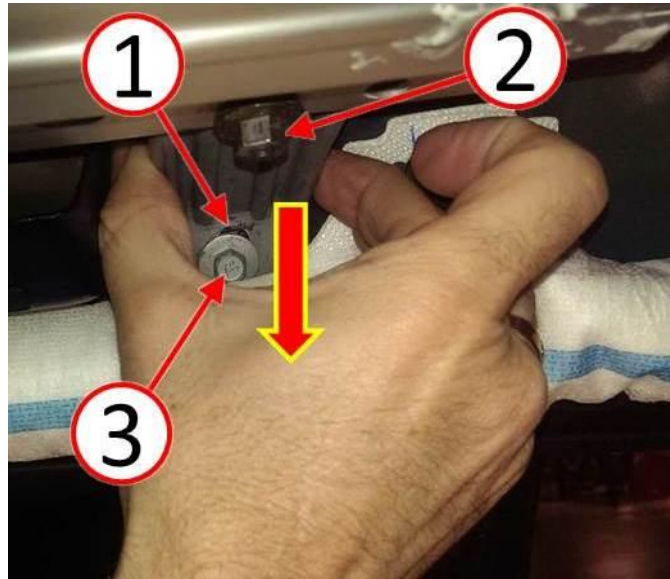

Fig. 5 Tighten Sunroof Module Fasteners
- Slide the rear bracket down to bottom of the slotted hole (1) at fastener locations (2 and 3). Gently pull down on the bracket and tighten nut (2) then fastener (3) to 9 N·m (80 in. lbs.) (Fig. 5).